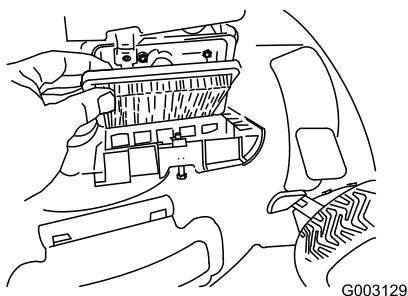

Figure 29
- Install the cover (Figure 29).